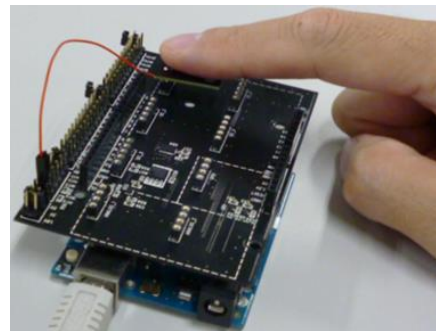

Figure 6. Measurement Environment
5. Place finger on top of the sensor board. (Figure 6)